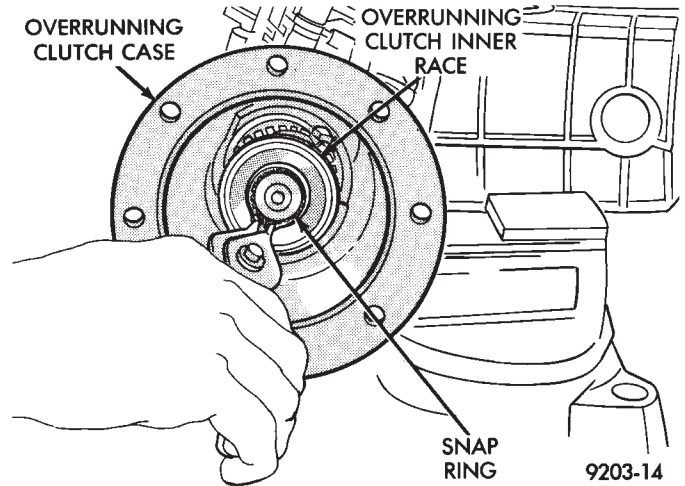

Fig. 10 Inner Race Snap Ring Removal
(7) Remove overrunning clutch inner race snap ring (Fig. 10).